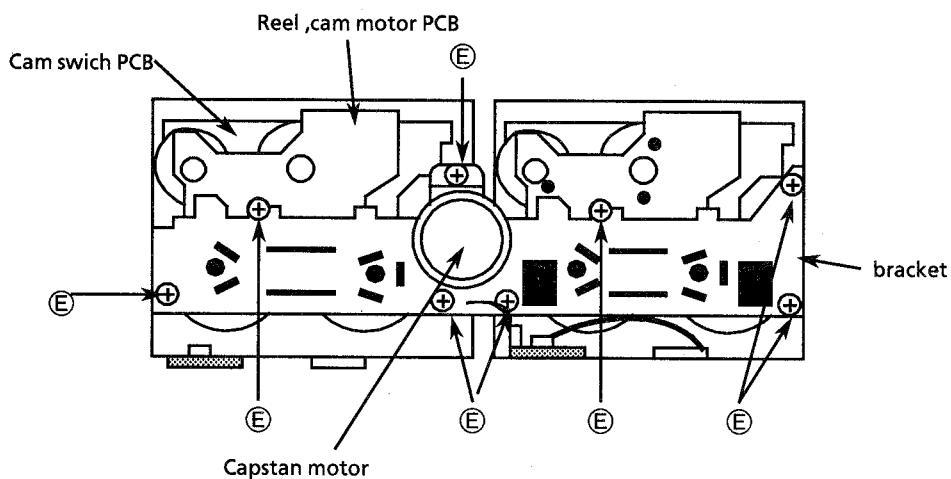

Fig 15 Cassette mechanism bottom view
- (31)** After inserting the turntable, bond the motor shaft and turntable together (at the section marked by an arrow in fig 15 on the left below).